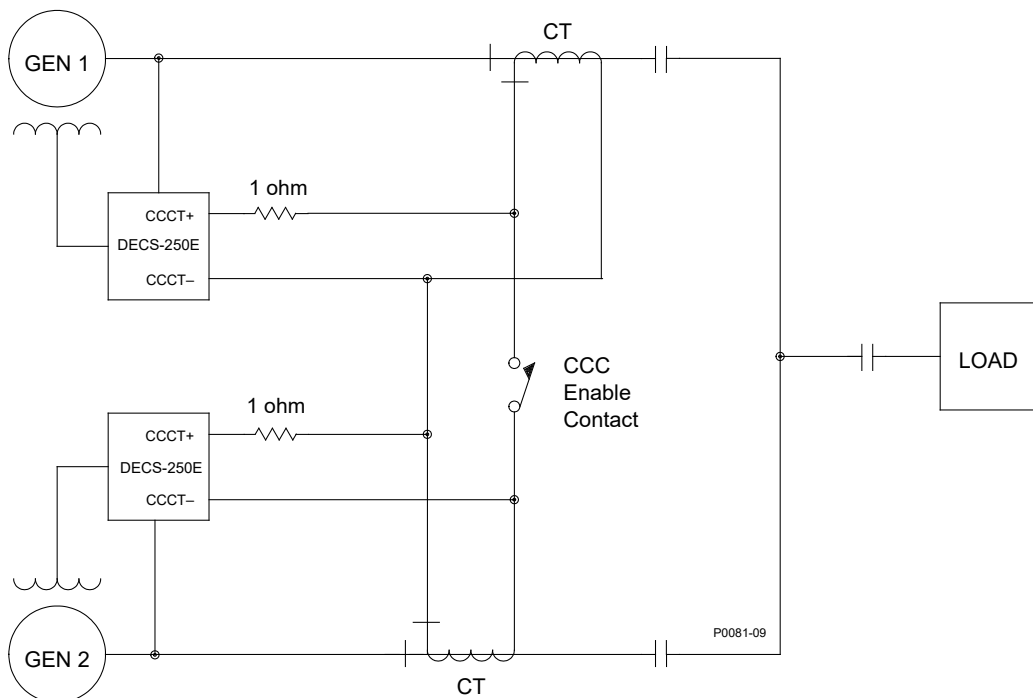

Figure 9-3. Connections for Cross-Current Compensation
Cross-current compensation (reactive differential) mode allows two or more paralleled generators to share a common load. As shown in Figure 9-3, each generator is controlled by a DECS-250E using the DECS-250E cross-current compensation input (terminals CCCT+ and CCCT-) and a dedicated, external current transformer (CT) to sense generator current. The resistors shown in Figure 9-3 are used to set the burden and may be adjusted to suit the application. Ensure that the power rating of the resistors is adequate for the application.